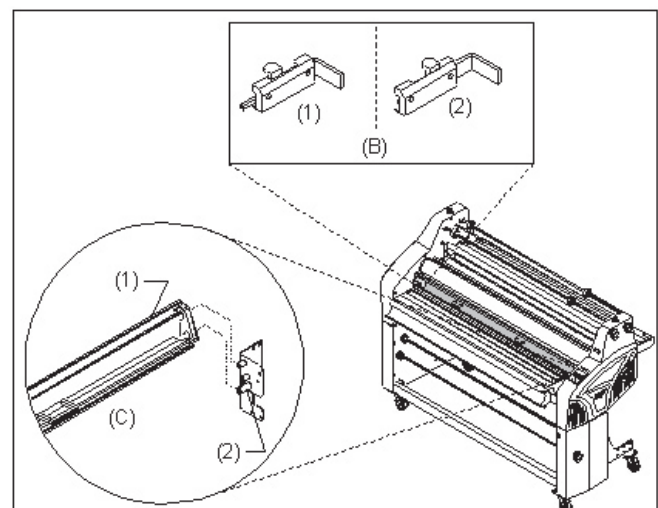

Fig 14
B. SAFETY SHIELD INTERLOCK LATCH: (Figure 14) Used to lock the safety shield into position and activate an interlock switch. The interlock latch is located on the left side of the safety shield. When pushed to the full left (1), the safety shield is locked. When pushed to the full right (2), the safety shield is unlocked.
C. SAFETY SHIELD: (Figure 14) Prevents entanglement, entrapment and inadvertent contact with the heat rollers. The laminator will operate only when the Safety Shield is located in the fully locked position. To remove the safety shield, unlock the safety shield interlock latch and lift the safety shield (1) up and away from the safety shield mounting pins (2).